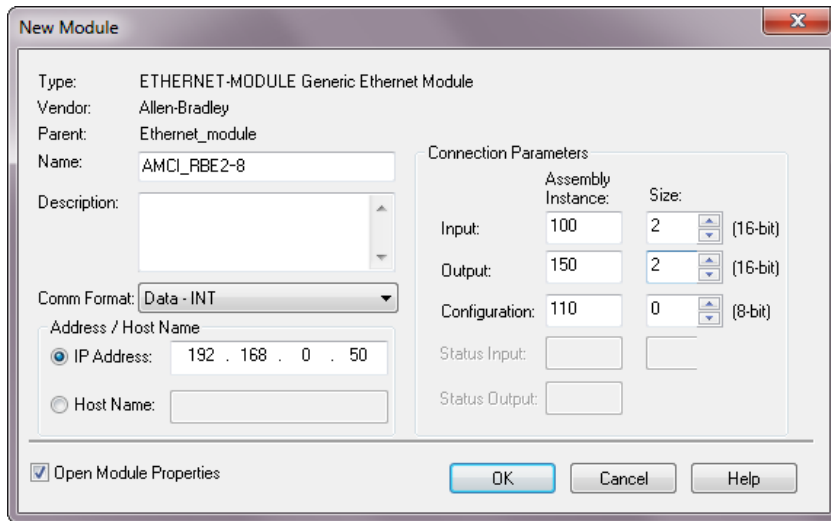

Figure T4.3 Configuration Screen - Generic Device
6) Set the following parameters in the Module Properties window. All parameters not listed here are optional. Figure T4.3 shows a completed screen.